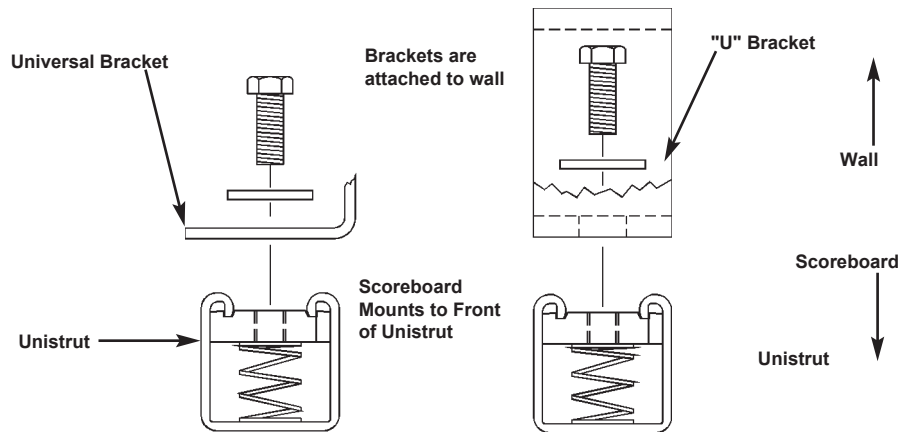

Figure 3-K: Attaching unistrut to bracket, Top View
- 2) Mount the bottom scoreboard display line, sliding the scoreboard display line's mounting brackets into the unistrut as shown in Figure 3-L.